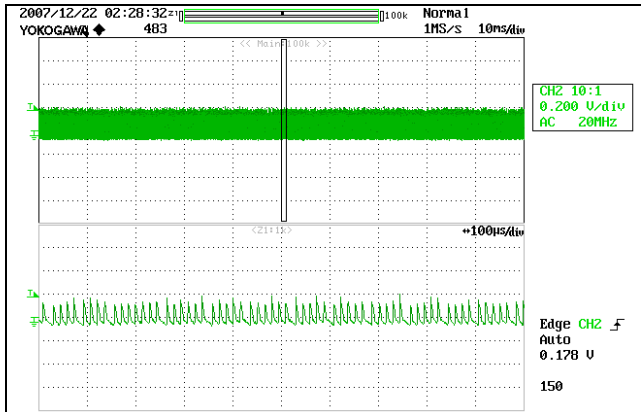

**Figure 15** – Oscilloscope Probe Prepared for Ripple Measurement. (End Cap and Ground Lead Removed).
Tie two capacitors in parallel across the probe tip of a 4987BA probe adapter. The capacitors include one (1) 0.1  $\mu\text{F}/50\text{ V}$  ceramic type and one (1) 1.0  $\mu\text{F}/50\text{ V}$  aluminum electrolytic. The aluminum-electrolytic capacitor is polarized, so always maintain proper polarity across DC outputs (see Figure 15 and Figure 16).